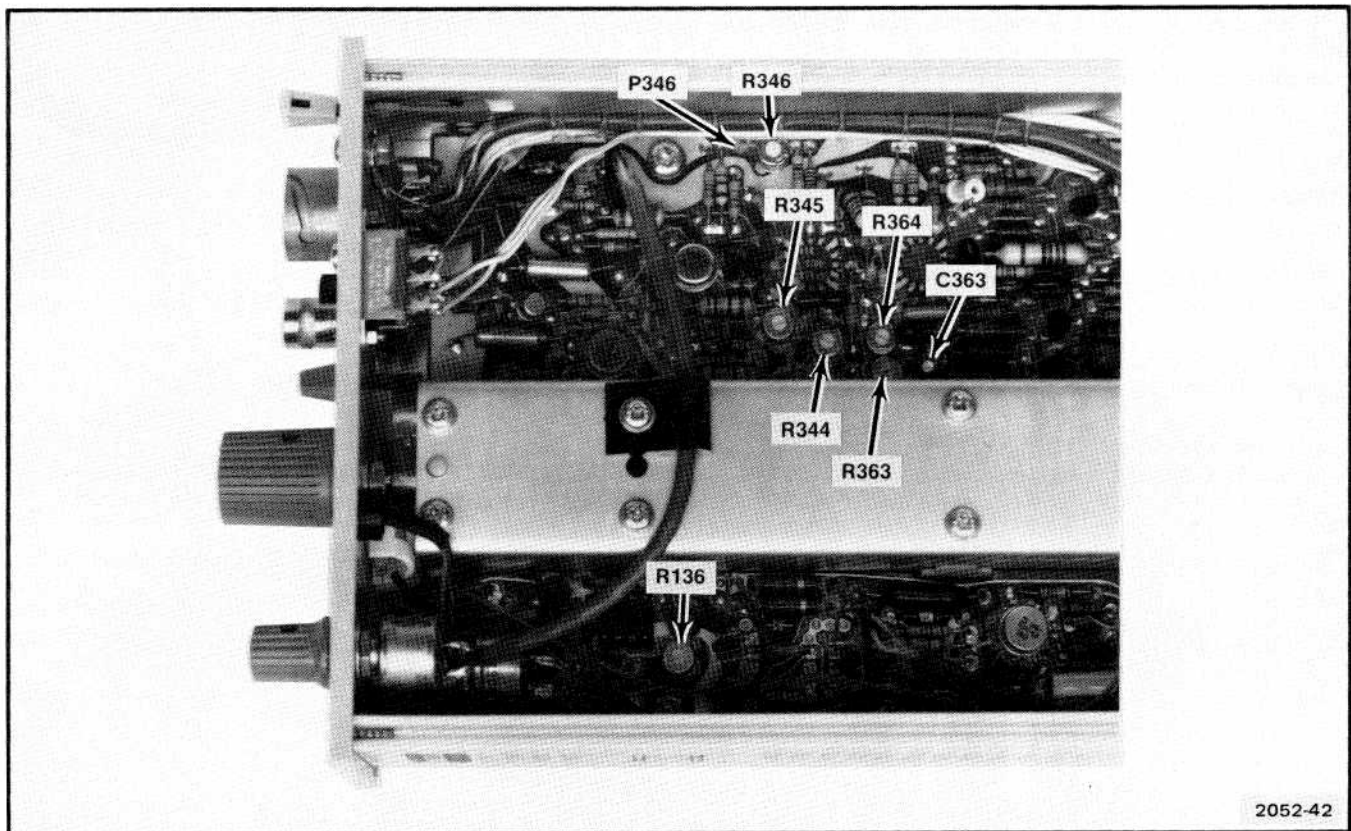

Fig. 3-3. Gain and compensation adjustment locations.
g. Adjust—R344 for a four-division display (see Fig. 3-3).
i. Connect a jumper wire between P346 (see Fig. 3-3) and ground.
l. Adjust—R136, Degauss Level (see Fig. 3-3), for a 4.4 divisions ± 0.4 division display.